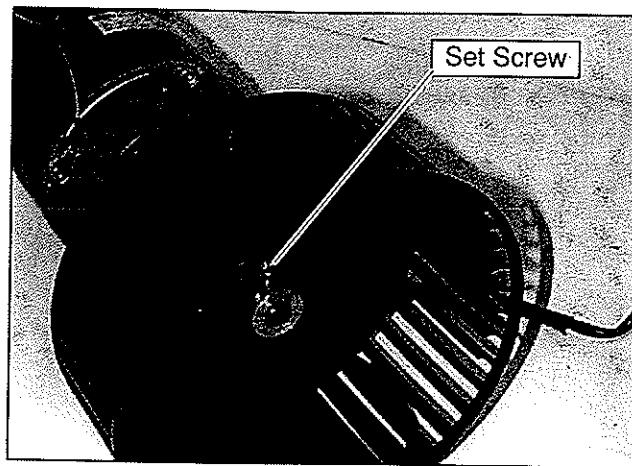

Figure 3-23 Blower Wheel
- e. Mark shaft at a point where wheel hub and motor shaft meet to aid in reassembly. (See Figure 3-23.)
- f. Remove 1 set screw holding the blower wheel to the motor shaft. (See Figure 3-23)